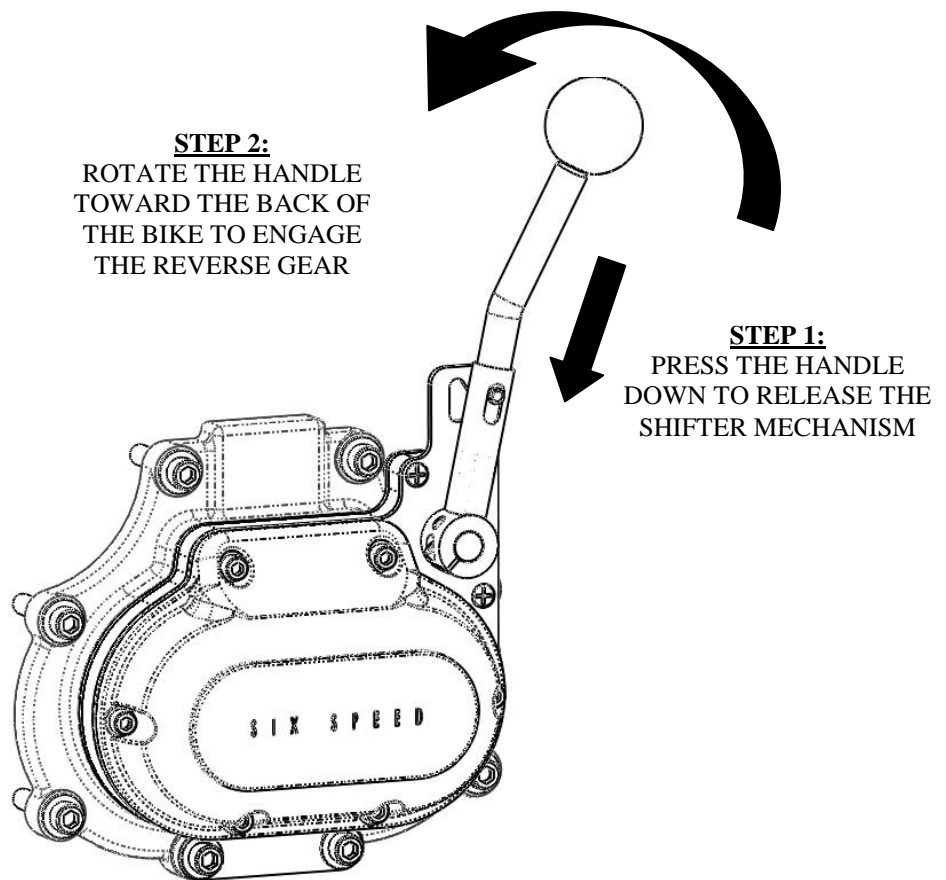

Figure 2: Instructions for engaging the reverse gear.
3. While holding the clutch to the grip, reach down with your right hand and engage the reverse gear. See Figure 2 below.